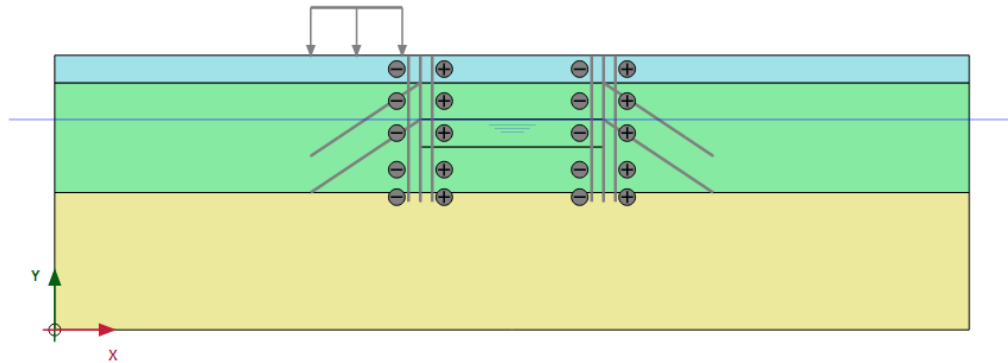

Figure 7-6: Configuration of the initial phase
- 7 The model for initial phase is shown in Figure 7-6 \(p. 130\).